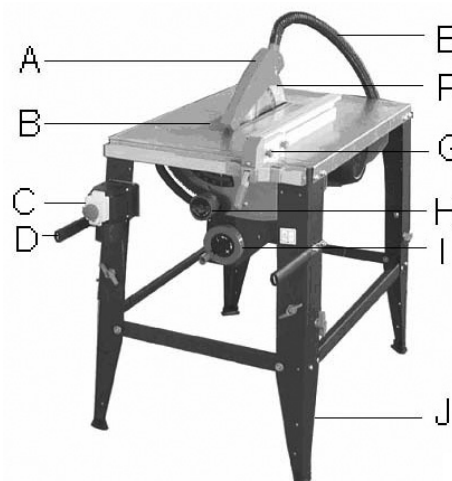
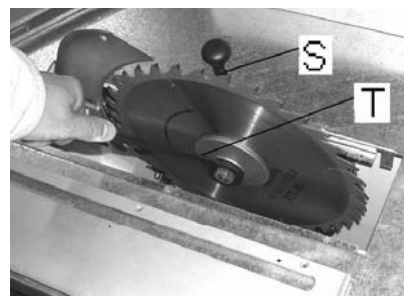

Fig. 1
Fig. 13
You can start the machine with the green ON button. The red OFF-button on the main switch (C, Fig 1) stops the machine.
**WARNING:** When installing or changing saw blade, always disconnect saw from power source, unplug! Remove the saw guard (A, Fig 1) and table insert (B). Raise sawblade fully. Loosen the arbor nut while stopping the arbor against rotation with the supplied tools (S, T, Fig 13)